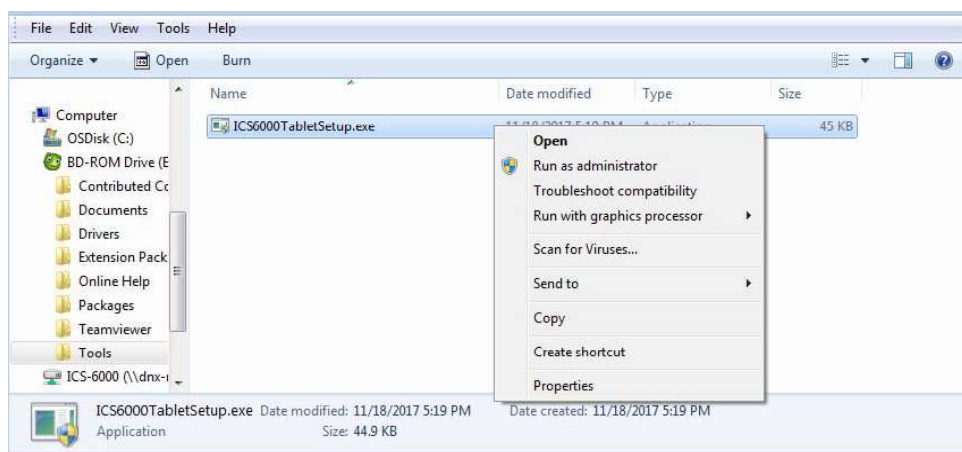

Figure 3-46. Run the ICS-6000 Tablet Setup Utility
4. Right-click the **ICS6000TabletSetup.exe** file, and then click **Run as Administrator** (see Figure 3-46).